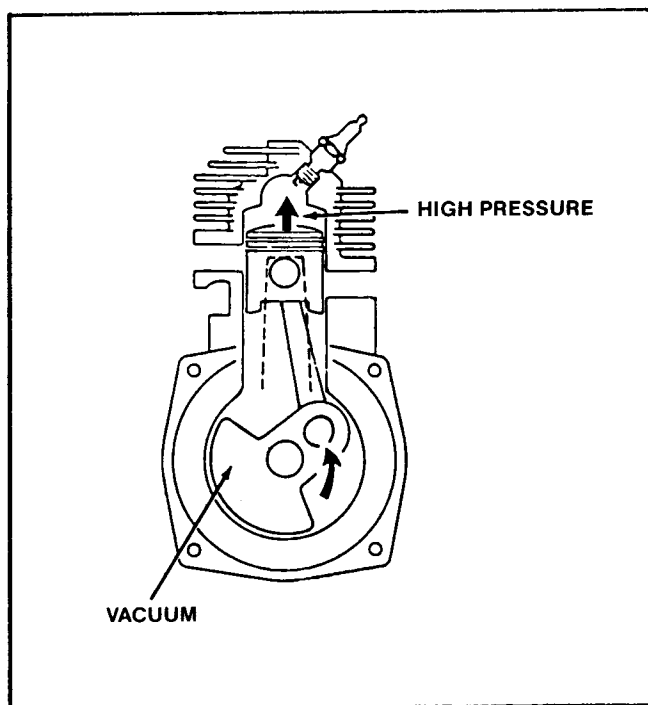

Figure 88
4. The upward movement of the piston builds pressure (compression) in the combustion chamber. See Fig. 88.